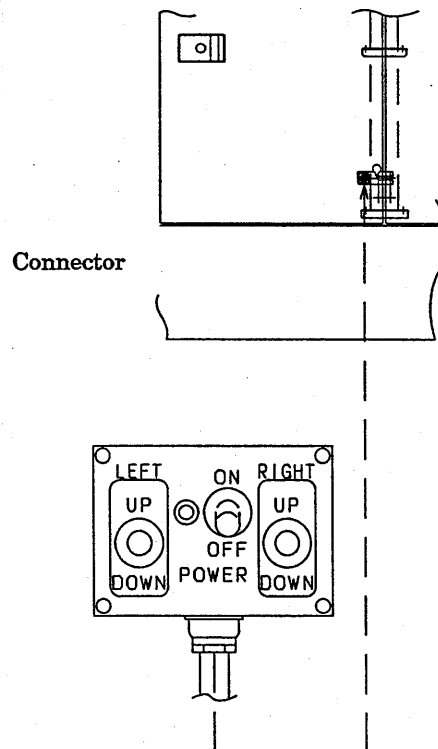

Fig 10-19
(5) Connect the wiring connector of the swing flasher located on the counterweight side.
(6) Stop the engine. Then, disconnect the connector of the control box (Fig. 10-19).